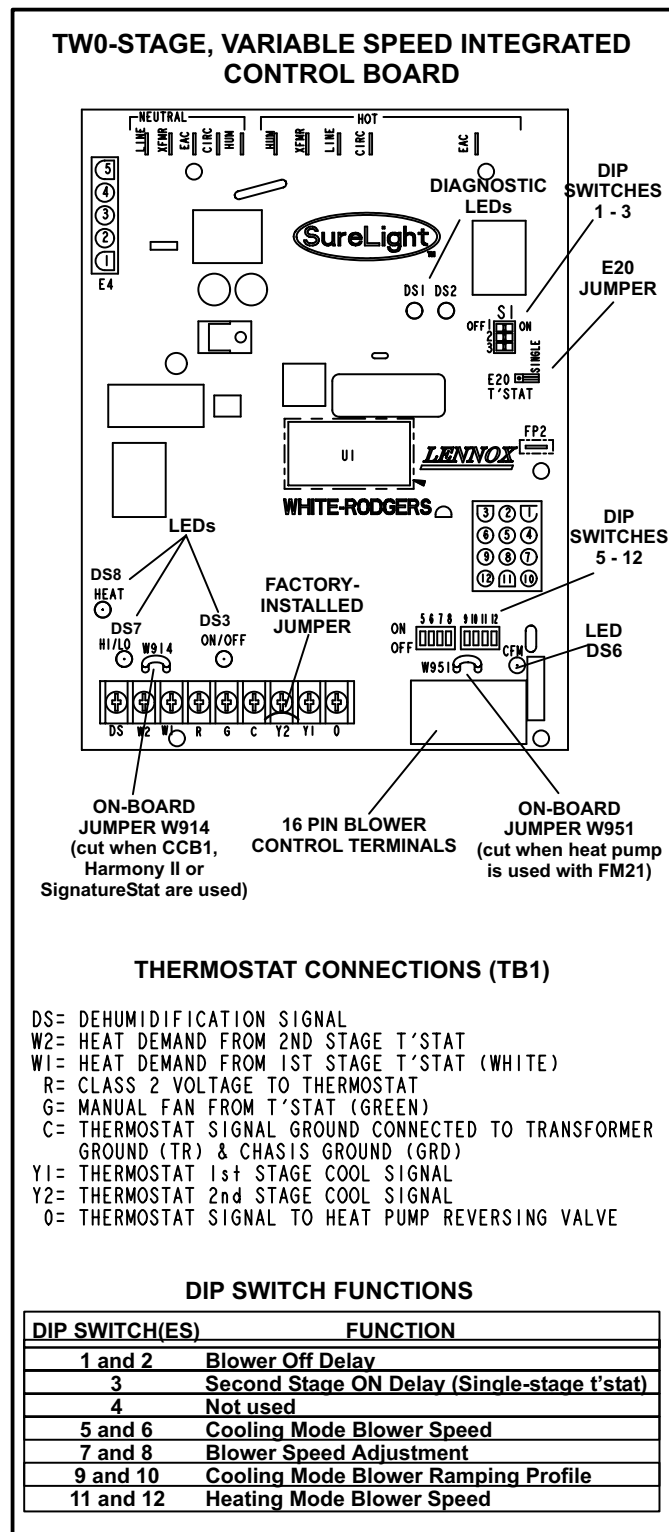

FIGURE 4
G60DFV units are equipped with the Lennox two-stage, variable speed integrated SureLight control board. The system consists of a ignition / blower control board (figure 4 with control terminal designations in tables 1 through 4) and ignitor (figure 11). The board and ignitor work in combination to ensure furnace ignition and ignitor durability. The SureLight integrated board controls all major furnace operations. The board features two LED lights, DS1 and DS2 for troubleshooting and four LED lights (DS3, DS6, DS7 and DS8) to show furnace status. The board also has two accessory terminals rated at (1) one amp each. See table 5 for status code and table 6 for troubleshooting diagnostic codes.
The control can be utilized in two modes: SINGLE-STAGE thermostat or TWO-STAGE thermostat. The thermostat selection jumper E20, located just below dip switches 1 through 3 (figure 4), must be positioned for the particular application. The jumper is factory set on "TWO" for use with a two-stage thermostat with two stage heat. Re-position jumper to "SINGLE" for use with a single stage thermostat with two stage heat.
Diagnostic LEDs are labeled DS1 and DS2. See figure 4 for location of diagnostic LEDs.